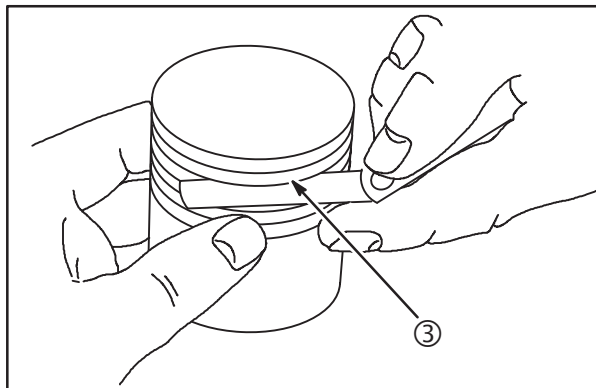

Fig. 3
1. Check side clearance of ring grooves using a feeler gauge and NEW piston rings (3), **Fig. 3**. Replace the piston if the ring groove is worn beyond specification.